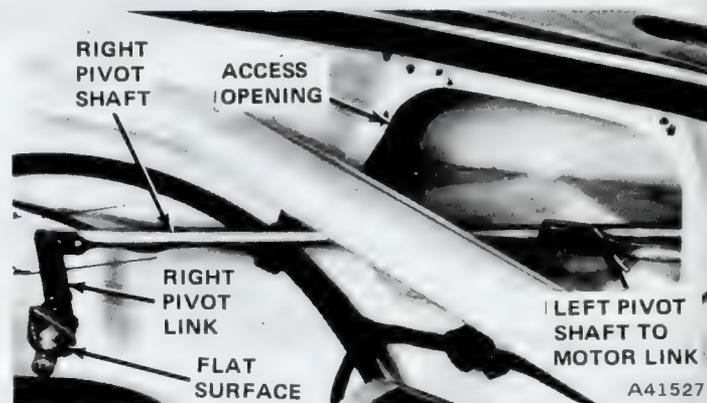

Fig. 3T-22 Removing Pivot Shafts and Link Assembly
- (1) Remove wiper arms and blades.
- (2) Remove pivot shaft-to-cowl top attaching nuts and washers.
- (3) Remove wiper motor.
- (4) Slide pivot shaft body and link assembly to left to clear right pivot shaft from opening and move assembly to right side of car to remove (fig. 3T-22).